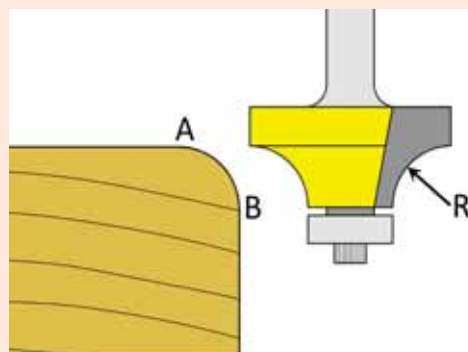

Figure 3: A perfect roundover
Figure 3 shows the profile bit that is used most often: the roundover bit or corner rounding bit. I have roundover bits ranging from a radius (R) of 1/8" (3mm) to 1-1/4" (32mm). The one I use most often is a 1/4" (6mm) radius bit. I strive for what I call a perfect roundover: that is one where the curve is tangential to the face (at point A) and edge (point B) of the board being moulded. If the bit is accurately ground a tangent at point B is guaranteed. A tangent at point A requires an accurate depth setting. I set the bit depth by eye, make a test cut and check. Minor adjustments using the router's micro depth adjustment allow me to be spot on after another one or two test cuts. A rounded edge feels good, is not prone to splintering, takes kindly to life's knocks and allows finishes to flow evenly. It also looks good. When light falls on an object the various facets on the surface reflect it in different ways. A curved surface allows the light to fade to a shadow.